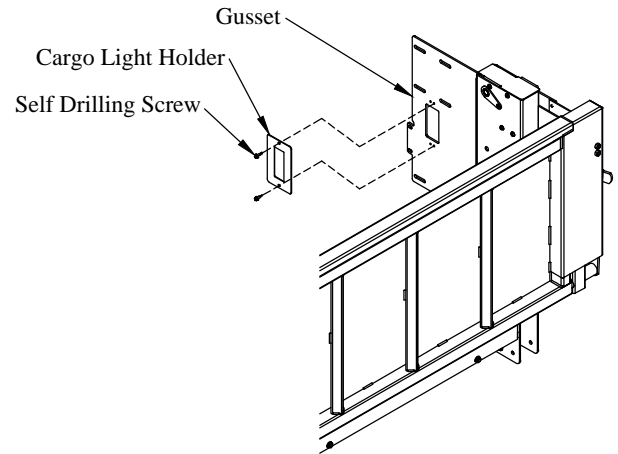

Figure 15: Cargo light new location.
15. **Install** a cargo light holder onto each gusset using the self-drilling screws (Figure 15).